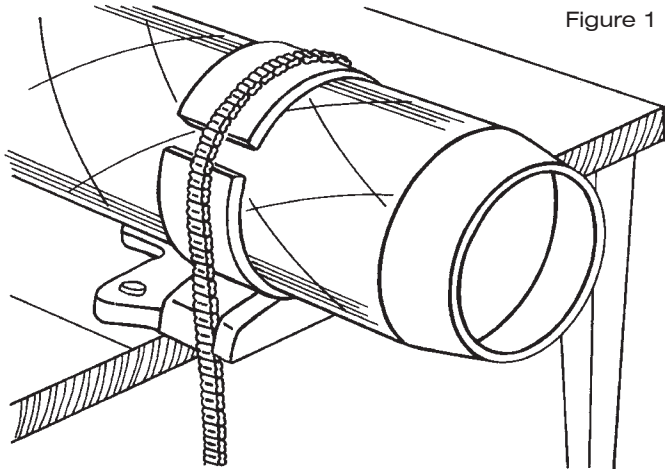

Figure 1
1. Clamp pipe that has been tapered at the factory into position. To prevent damage to the pipe, protect it from metal surfaces with two 180 degree sections of the same size pipe. (See Fig. 1.) If possible, clamp the pipe at least two feet from the end of the pipe to prevent the pipe from becoming oval.